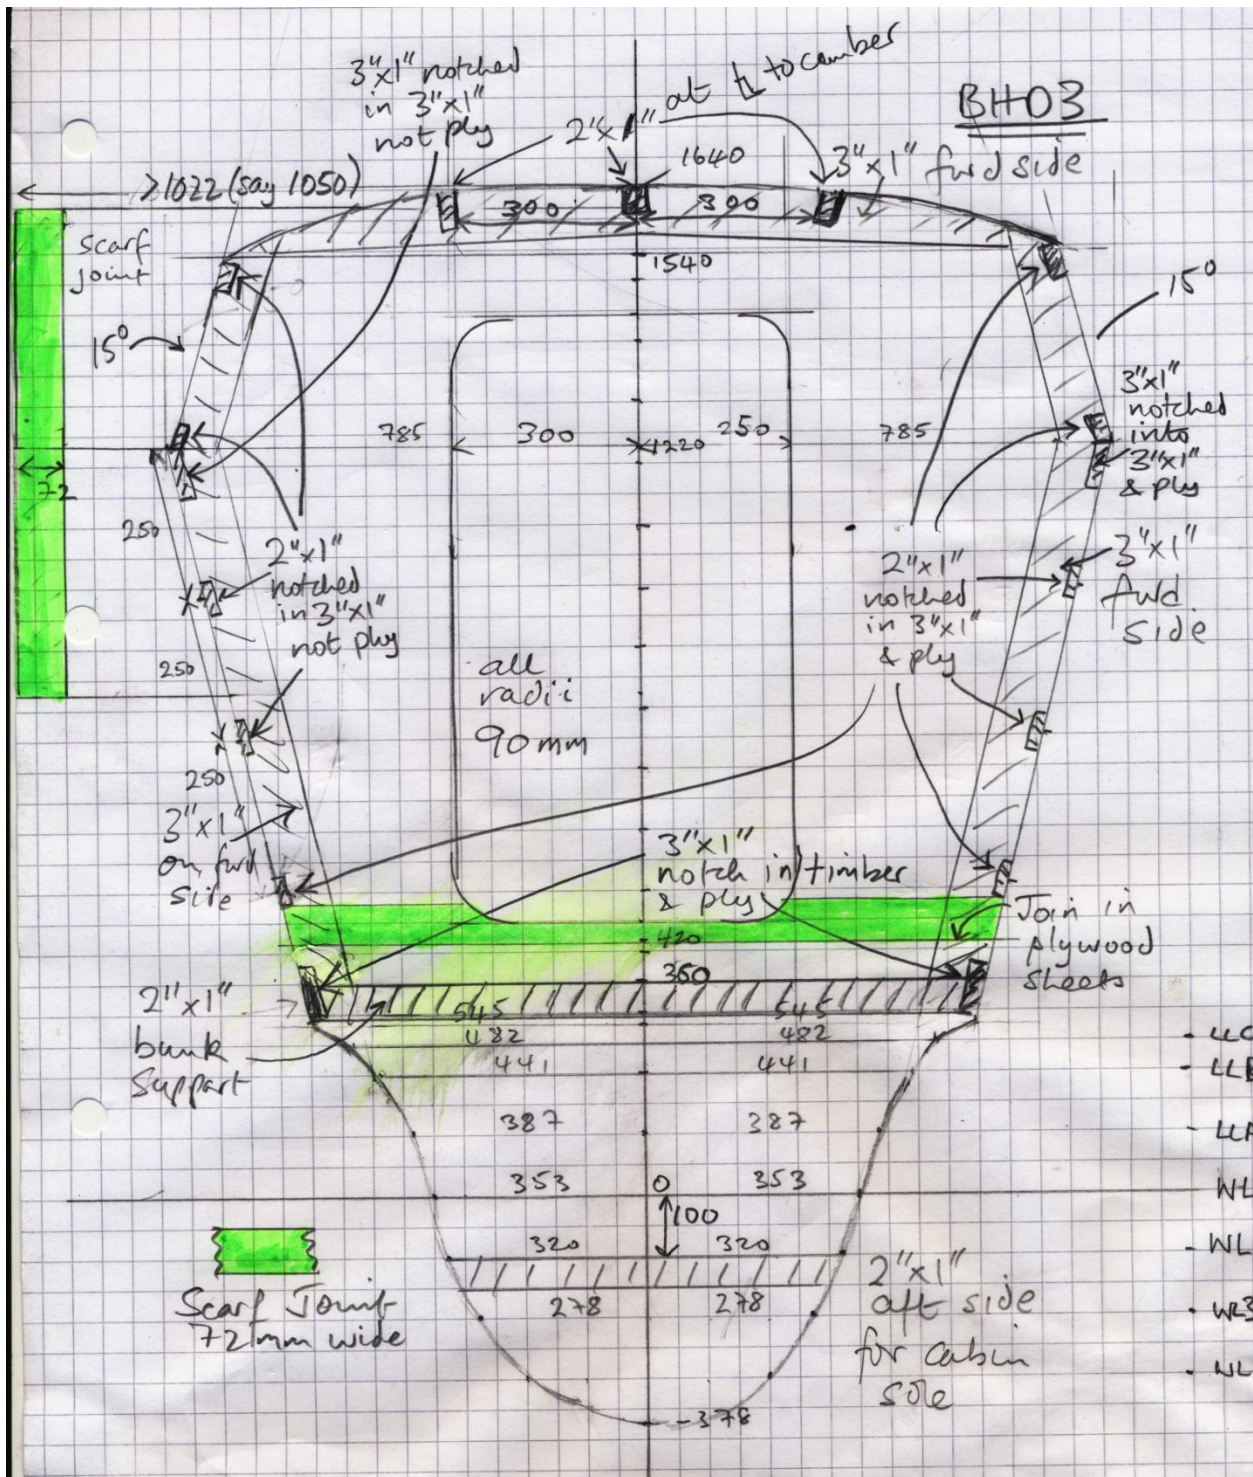

Figure 12: Bulkhead 3 Details
- Figure 12: Bulkhead 3 Details.